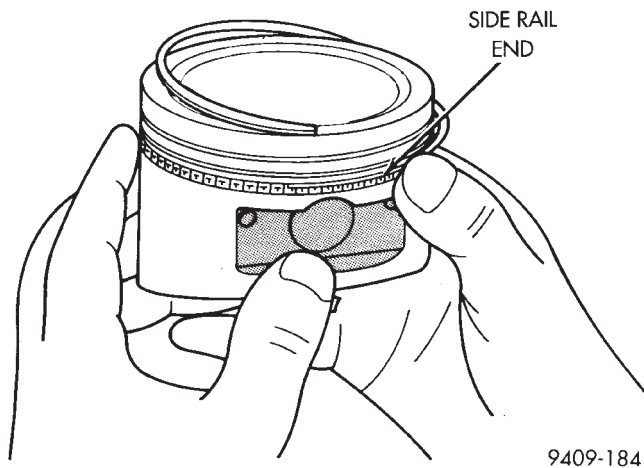

Fig. 94 Installing Side Rail
- f. Install the side rail by placing one end between the piston ring groove and the expander. Hold end firmly and press down the portion to be installed until side rail is in position. **Do not use a piston ring expander (Fig. 94).**